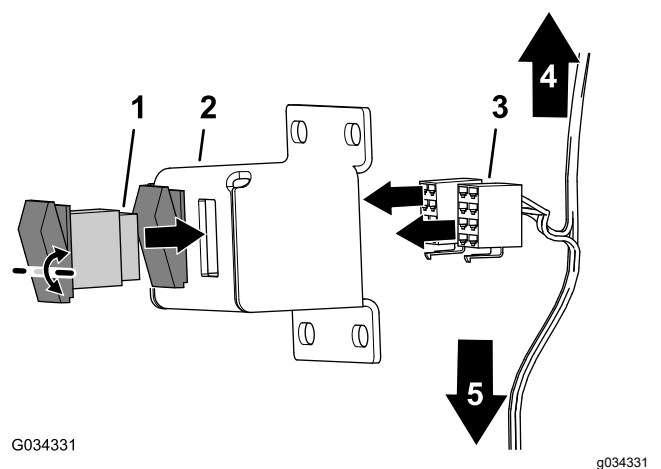

Figure 2
1. Align the rocker switch to the opening in the switch bracket (Figure 2).
2. Insert the switch into the opening until the latch on the switch snaps securely (Figure 2).
4. Connect the 8-socket connectors of the wire harness to the 8-pin connectors of the rocker switches (Figure 2).